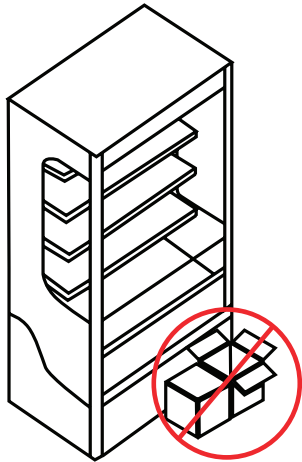

Fig. 5
- Do not block the lower ventilation grille with the packages about to be loaded. (Fig. 5)